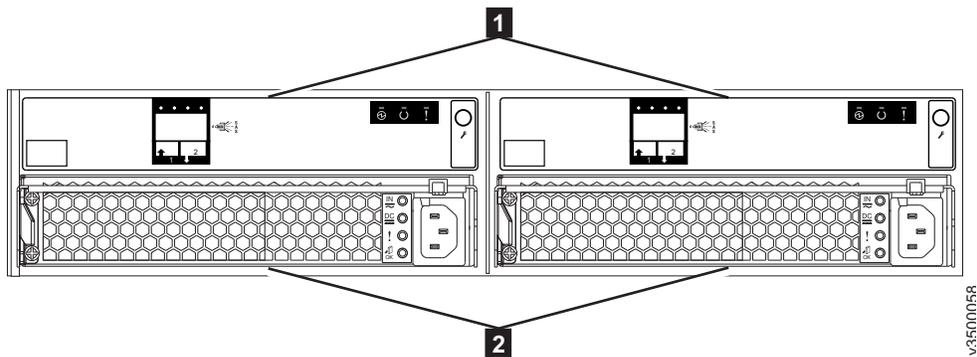

Figure 4. Rear view of a Storwize V3700 expansion enclosure
Figure 4 shows the rear view of an expansion enclosure. The location of the power supply units and expansion canisters are identified, as follows.
Note: Figure 4 shows an enclosure that is equipped with alternating current (AC) power supplies. Some enclosure models have direct current (DC) power supplies instead (see “Reviewing your packing slip” on page 5 for the model numbers). For more information about DC power supply units, see “Direct current power supply units” on page 10.